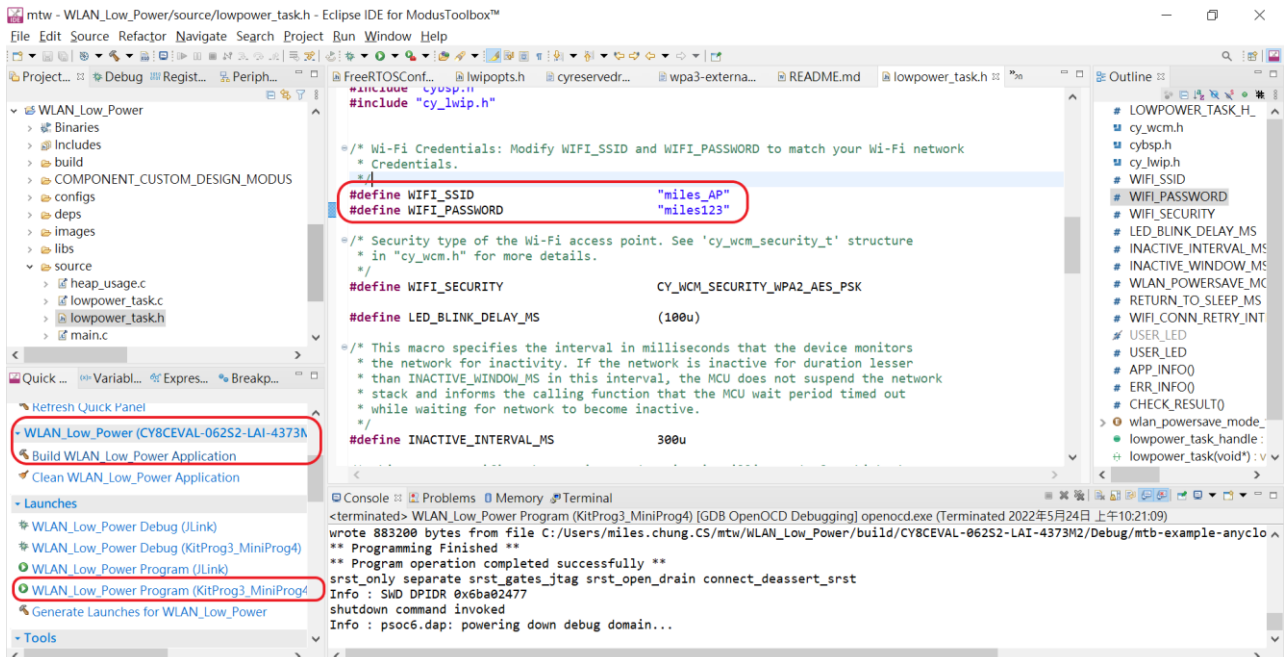

Figure 7: Configure Lowpower_task.h file in ModusToolbox
- The project will open in ModusToolbox with all the default files and settings. Change the SSID and password settings defined in *lowpower_task.h* (located in the *source* folder in the left-hand panel as shown in Figure 7. Change the values for WIFI_SSID and WIFI_PASSWORD to your access point's SSID and password.